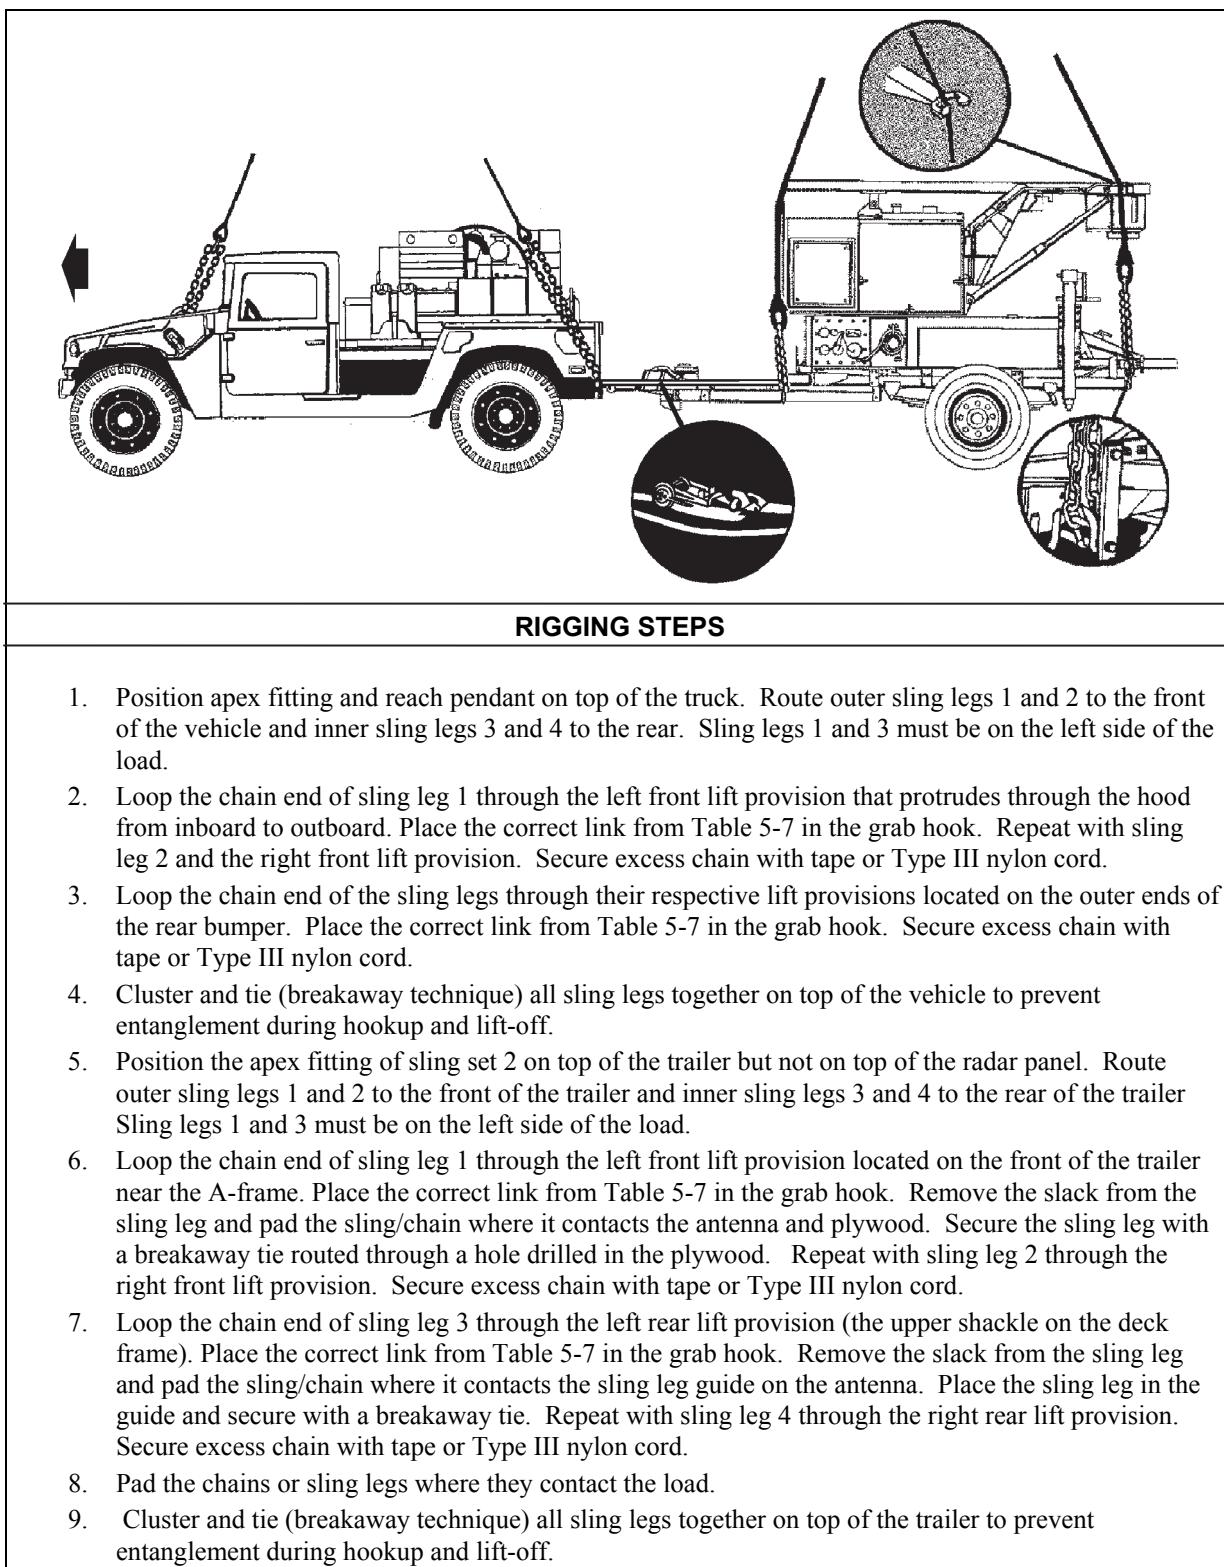

Figure 5-7. M1097, 1-1/4 Ton (HMMWV) with Generator Pallet Group, G-86-TPQ-36 (V)7, and Radar Set Antenna Mounted on M116A2 Trailer
- **Rigging.** Rig the load according to the steps in Figure 5-7.